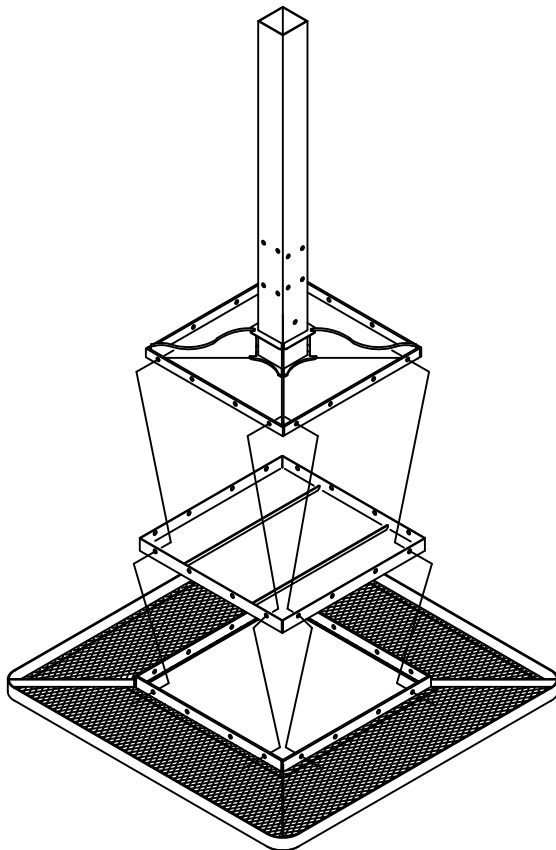

FIG. 9
If mounting plate covers (E) are used, place halves around leg and secure with two (N) screws, see FIG. 9. Draw to a snug fit being careful not to over tighten.